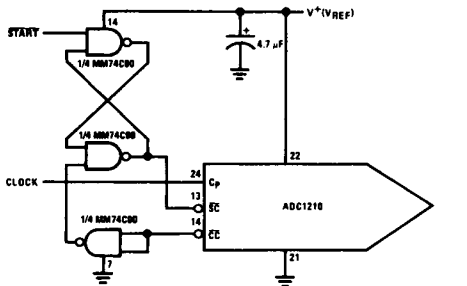

FIGURE 8. Synchronizing the START Pulse
To assure reliable conversion accuracy, the **START** (SC) pulse applied to pin 13 of the ADC1210 should be synchronized to the conversion clock. One simple way to do that is the circuit shown in Figure 8. Note that once a conversion cycle is initiated, the **START** signal cannot effect the conversion operation until it is completed.